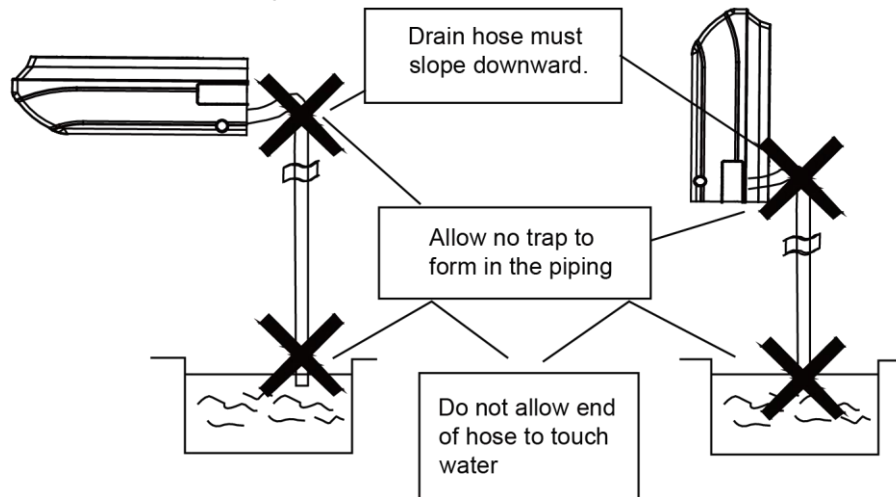

Figure 3-1-32
- (4) Connect the drain hose. (Figure 3-1-32)